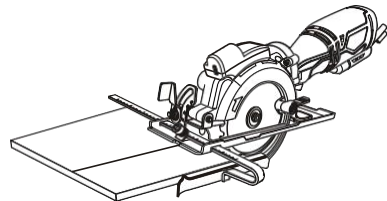

**Fig. 10**
3. Set the saw on the workpiece so the front edge of the sole plate (1) is flat on the workpiece (Fig. 10).
4. Open the blade guard by rotating the blade guard lever (2) forward.
5. Align the saw blade with the cutting line (3) using the 0° cutting mark on the sole plate and the laser line.